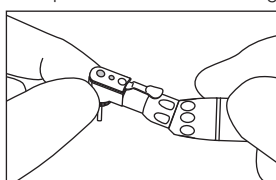

Fig.3
- 5) After the handpiece rotation has completely stopped, touch the handpiece head to confirm the head is NOT heating abnormally (Fig.3).